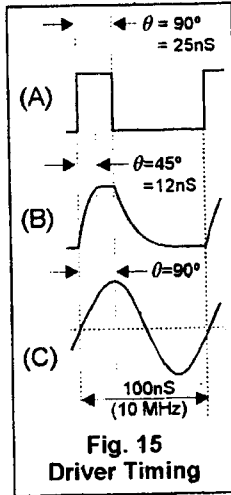

Fig. 15
I recommend striving for 15–20nS. See Figure 15. This is also consistent with the ~16nS rise time,  $t_r$ , of the IRF510. "Tr" is theoretically the fastest  $C_{iss}$  can be charged.
I have found a driving current of 25–30mA to be a nice compromise to charge  $C_{iss}$  sufficiently fast for high efficiency. Referring to Fig. 15 (B), if the gate waveform does not flatten out at the 8v level (looks more like a sine wave), the driver is not providing sufficient current to the gate. Driving the gate voltage to saturation quickly, by providing sufficient gate drive current, is paramount in achieving the